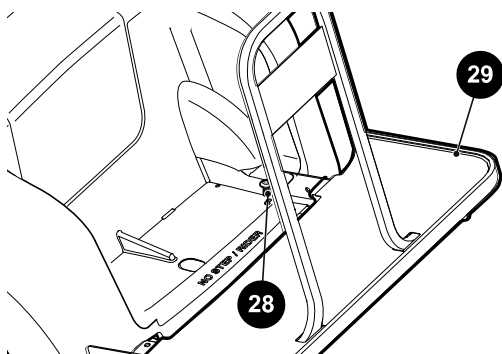

Figure 17 Rear Facing Seat Foot Rest
11. Remove two torx head bolts (28) from the bagwell floor (Figure 17).